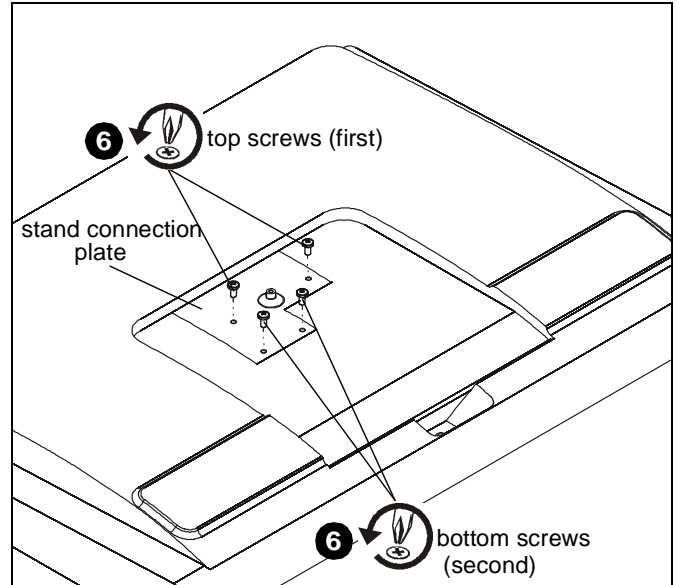

Figure 2
- Pull up the stand and remove the top two screws. (See Figure 2)
- Lower the stand and remove the bottom two screws. (See Figure 2)